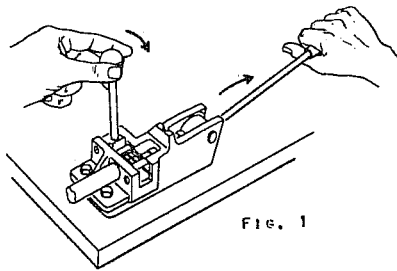

FIG. 1
1. Swing swaging handle (A) into vertical position and release die holder cam lever (B). Swing out die holder assembly and remove die pressure plate (C). Insert set of dies (D) corresponding to tubing size to be swaged with marking facing swaging adapter (Figure 1). Replace die pressure plate and return die holder to swaging position.